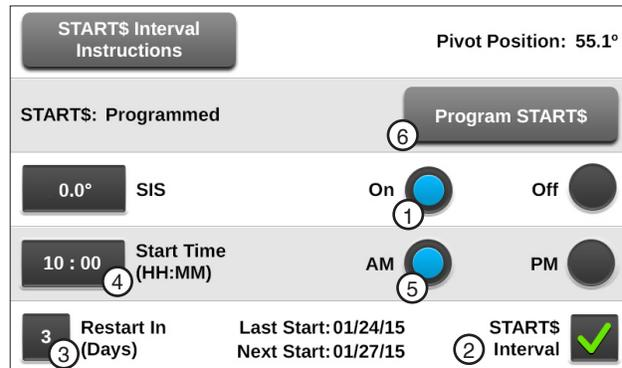

Figure 156-1 1. On 2. START\$ Interval Checkbox 3. Restart in (Days) 4. Start Time 5. AM 6. Program START\$
1. Push **Menu**, **Programs**, **Cycles** and **START\$ Interval** to view the START\$ Interval screen. Refer to Figure 156-1.